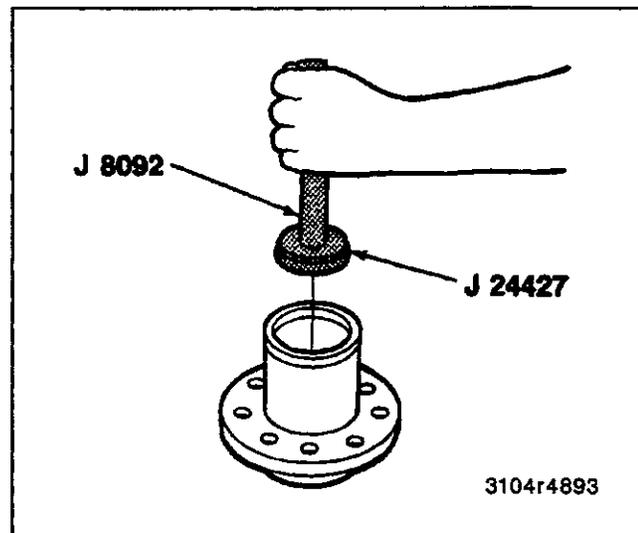

Figure 32—Installing Inner Bearing Cup
3. Inner bearing cup using J 8092 and J 24427 (figure 32).